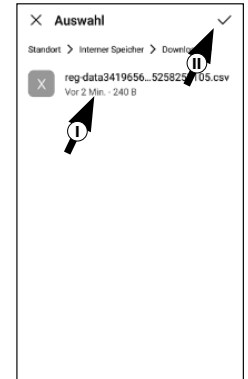

Fig. 51
- 3 Select the CSV file that you received by email from smartphone B (I). Confirm the selection at the top right with the tick (Fig. 51).